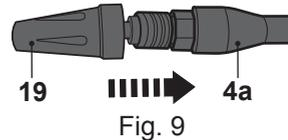

Fig. 9
- > To remove the nozzle, pull the sleeve of the nozzle connection port (4a) of the pressure lance (4) backward (Fig. 9).